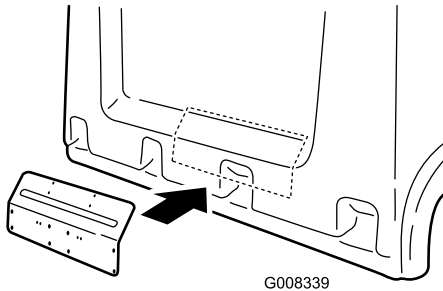

Figure 1
1. On the back of the aerator hood, determine a suitable location to install the tool kit mounting plate. Position the mounting plate on the hood while aligning the plate's bend with the curve in the hood as shown in (Figure 1) The lower portion of the mounting plate must be flush against the hood.